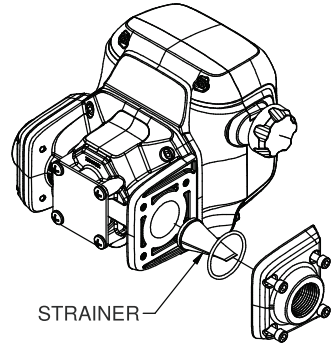

figure 5b
1. Remove the socket screws at the inlet fitting. Remove the fitting, O-ring and strainer. (see Figure 5b)